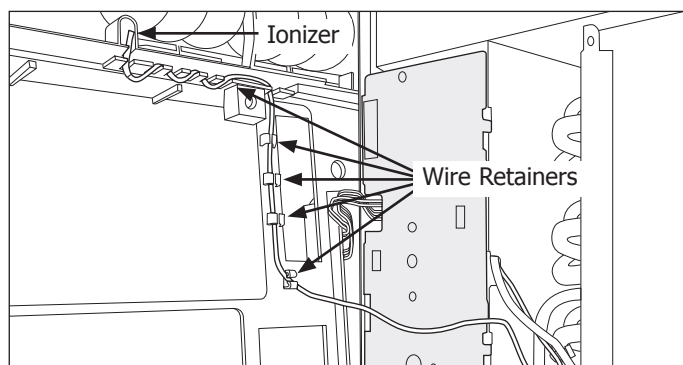

Figure 4-91.
8. Turn front panel to access the ionizer cable, using caution not to strain the wire harness connections. Remove ionizer cable from the retainers on the back side of the front panel. (See Figure 4-91)